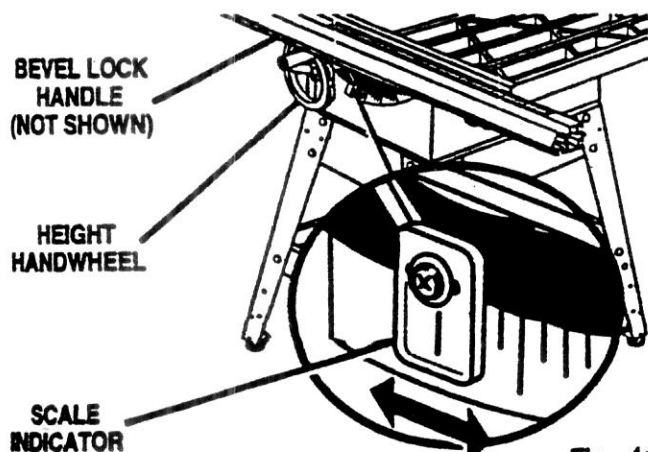

Fig. 41
See Figures 41 and 42
- Loosen bevel lock handle and turn the bevel handwheel clockwise to tilt the blade. See Figure 41. Reverse it and turn handwheel counterclockwise until it stops.